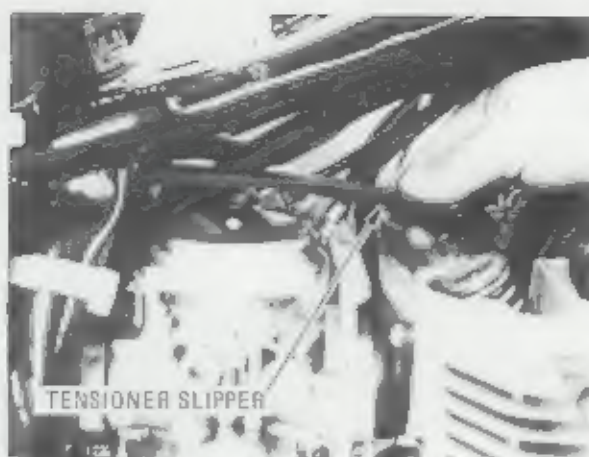

FIG. 7
7. Install the tensioner slipper, starting insertion from the position shown in Fig. 7.